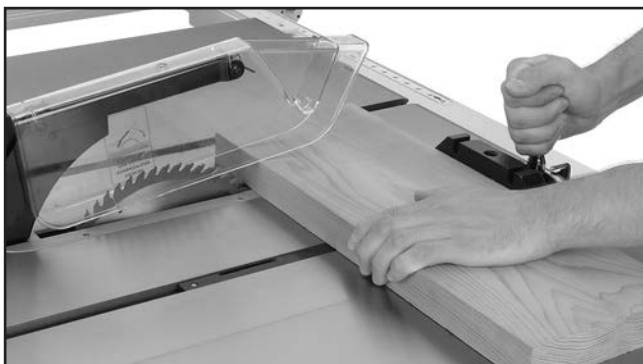

Figure 54. Typical crosscutting operation.
7. Hold workpiece firmly against face of miter gauge (as shown in **Figure 54**), and ease it through blade until workpiece is completely past saw blade.